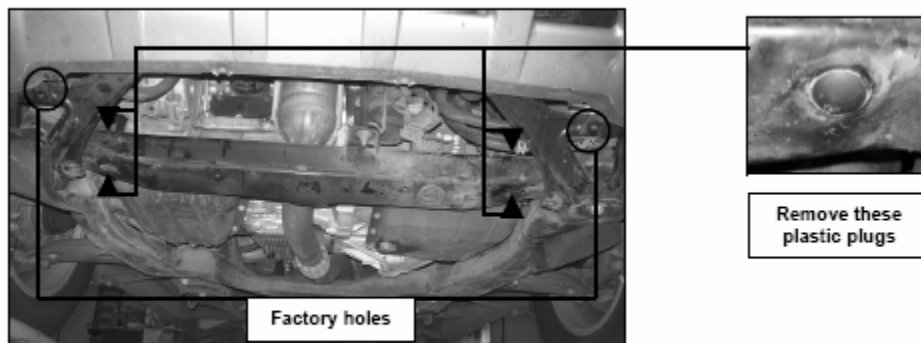

Figure 3
**3.** Remove the plastic plugs on the cross bar member. There is one on the passenger side and one on the driver side, top and bottom of cross member bar (Figure 3).